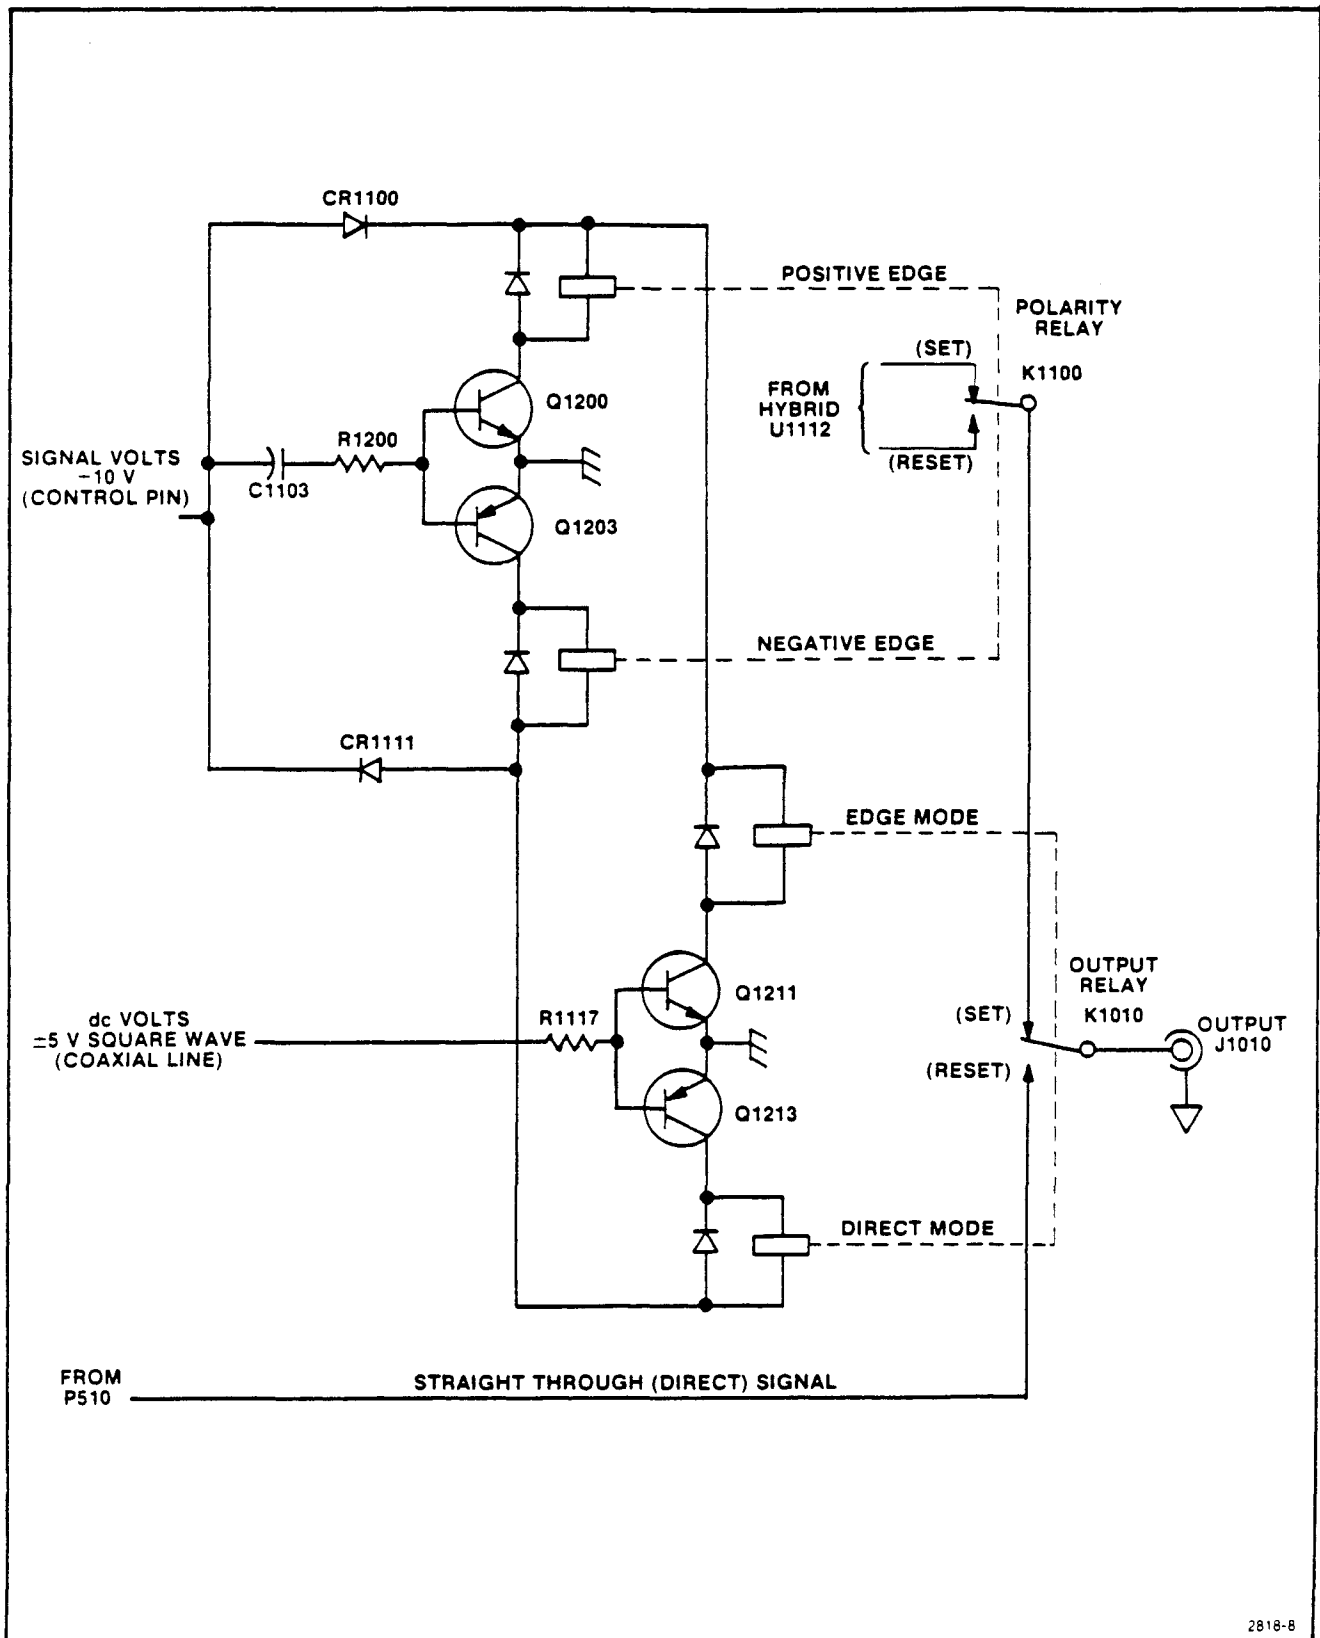
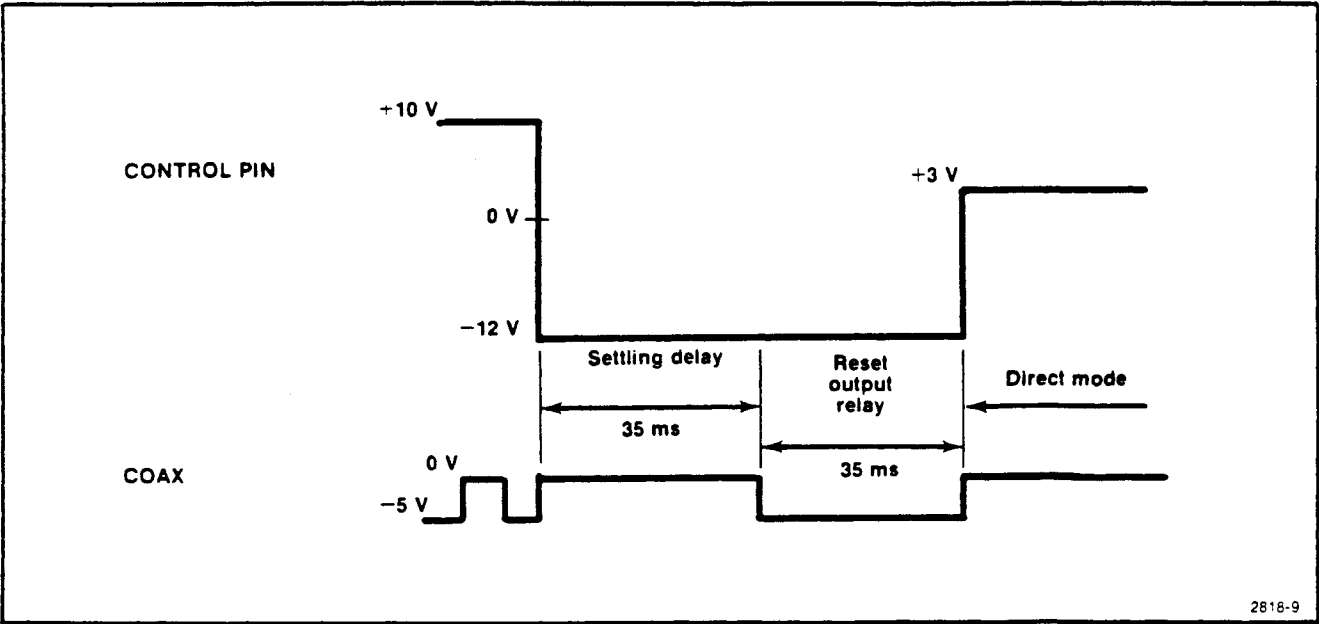
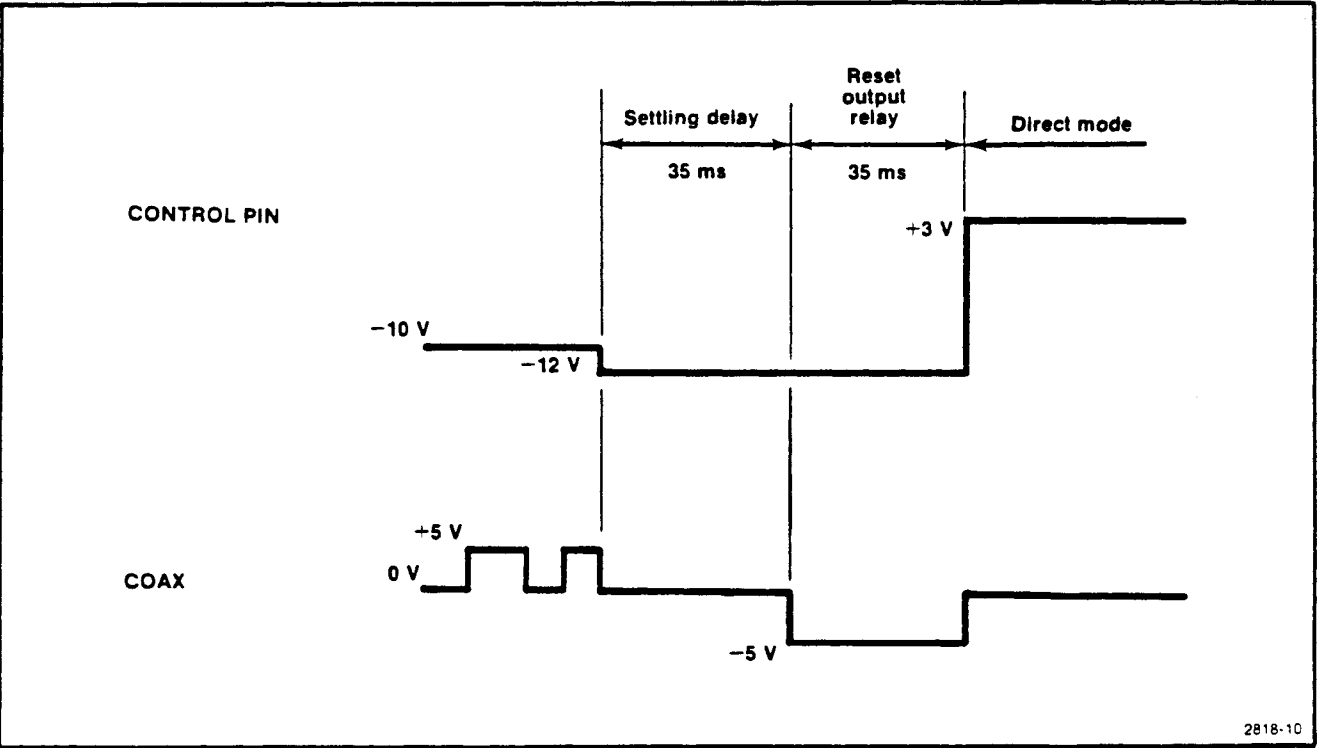

Fig. 3-6. Polarity and output relay switching.
Fig. 3-7. From POSITIVE FAST EDGE mode to direct mode.
Fig. 3-8. From NEGATIVE FAST EDGE mode to direct mode.
After entering the FAST EDGE mode, the CG 5010/CG 5011 programs the control pin positive (+12 V). After 35 ms settling delay, the coaxial signal cable is programmed positive for another 35 ms. As the control pin draws current through R1202, (located on the Edge Driver board) K1210 closes. A positive voltage (+10 V) is applied through CR1100 to the collector of Q1200. This sets K1110 (see Fig. 3-6). Positive drive is also applied to Q1211 (also through CR1100), which
When the positive EDGE POLARITY pushbutton on the CG 5010/CG 5011 is pressed, the operation for the Pulse Head circuit requires the control pin to remain at +10 V and the coaxial line to supply a square wave that switches between ground and -5 V through R1117 (see Fig. 3-6). With these two lines carrying opposite polarity voltages, Q1211 remains off and no further switching of K1010 occurs. Q1200 is off. The time constant set by R1200 and C1103 (located on the Edge Driver board) in the base of Q1200 determines the length of time Q1200 is on. The +10 V is now applied through diode CR1100 as supply voltage for the positive fast-edge generator circuit. The CG 5010/CG 5011 has now changed the signal on the coaxial line from +5 V to a negative square wave (between ground and -5 V). The repetition rate is determined by the lighted FREQUENCY pushbutton on the CG 5010/CG 5011.
**Straight-Through (Direct) Mode.** When the CG 5010/CG 5011 is switched out of the fast edge mode, both the control pin and coaxial lines go negative. See waveforms in Fig. 3-7 and Fig. 3-8. This applies a negative voltage and negative base drive to Q1213 which switches K1010 to the reset (direct mode) position (see Fig. 3-6). Approximately  $10\text{ ms}$  later, the CG 5010/CG 5011 shifts the control line to near  $0\text{ V}$  which opens the input relay, K1210.